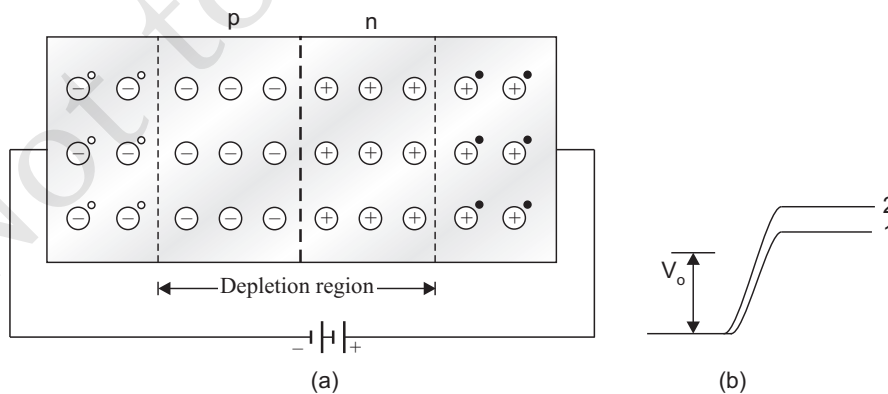

Fig. 4.24. (a) Diode under reverse bias. (b) Barrier potential under reverse bias.
When an external voltage (V) is applied across the diode such that n -side is positive and p -side is negative, it is said to be reverse biased. The applied voltage mostly drops across the depletion region. The direction of applied voltage is same as the direction of barrier potential. As a result, the barrier height increases and the depletion region widens due to the change in the electric field. The effective barrier height under reverse bias is $(V_0 + V)$, [Fig. 4.24 (b)]. This suppresses the flow of electrons from $n \rightarrow p$ and holes from $p \rightarrow n$. Thus, diffusion current decreases enormously compared to the diode under forward bias.